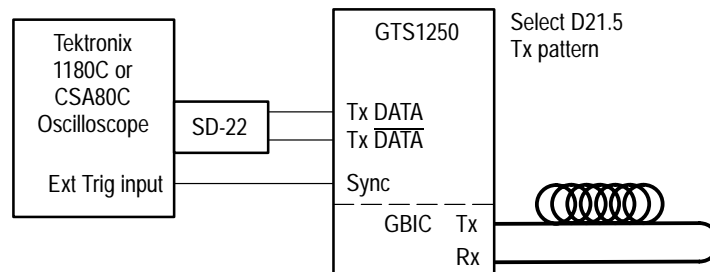

Figure 17: Tx Data levels (swing)
3. Connect an SMA cable between the Sync output of the GBIC Test System and the oscilloscope Ext trigger input as shown in Figure 17.
4. Connect SMA cables between the Tx DATA and Tx $\overline{\text{DATA}}$ outputs of the GBIC Test System and the SD-22 inputs of the oscilloscope as shown in Figure 17.